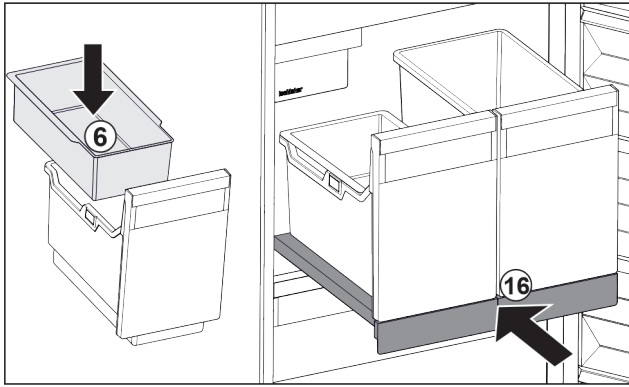

Fig. 130
- ▶ Insert hang-on tray Fig. 130 (6) for ice cubes.
- ▶ Slide in the pull-out board with container (IceTower). Fig. 130 (16)